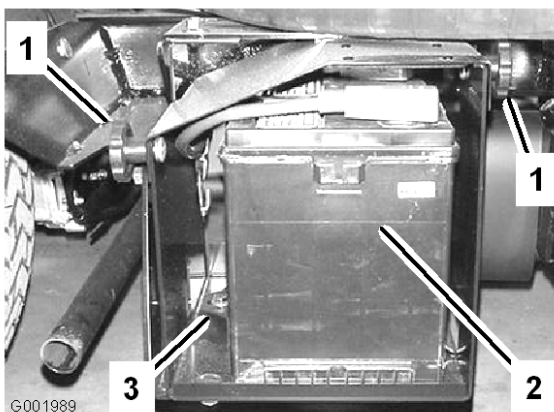

Figure 51
2. Loosen the knobs on the sides of the battery box and remove the battery cover (Figure 51).
5. Remove the battery retainer and fasteners (Figure 51).
2. Install the battery retainer and secure it with the fasteners you removed previously (Figure 51).
4. Install the battery cover and secure it with the 2 knobs (Figure 51).
1. Loosen the knobs on the sides of the battery box and remove the battery cover (Figure 51).